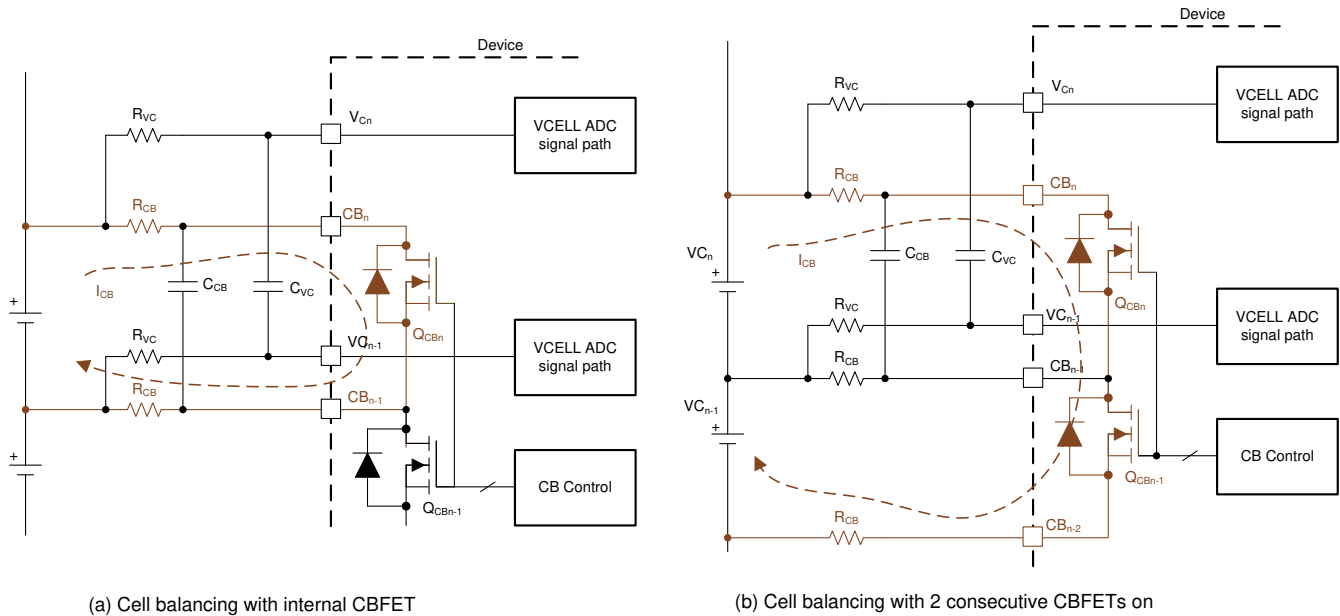

Figure 6-13. Internal Cell Balancing and the Flow of Balancing Current
- Balancing with no consecutive CBFET on (Figure 6-13 (a)): $I_{CB} = V_{Cell} / ((2 \times R_{CB}) + R_{dson_{QCB}})$
- Balancing with two consecutive CBFETs on (Figure 6-13 (b)): $I_{CB} = (\text{Sum of two } V_{CELL}) / ((2 \times R_{CB}) + R_{dson_{QCBn}} + R_{dson_{(QCBn-1)}})$
- Manual balancing control ($[AUTO_BAL] = 0$): With this method, the device will turn on the CBFETs that have non-zero balancing timer settings once $[BAL_GO] = 1$ is received. There is no odd and even channel switching during the cell balancing and the $BAL_CTRL1[DUTY2:0]$ setting does not apply under this control. Host MCU can enable two consecutive CBFETs with this method and a maximum of eight CBFETs can be enabled. When two consecutive CBFETs are enabled with both channels connected to battery cells, the balancing current is significantly different compared to no adjacent CBFET being on (Figure 6-13). The $DEV_CONF[NO_ADJ_CB]$ bit is provided to avoid inadvertent enabling of an adjacent CBFET for a system that is not intended to have an adjacent channel on for balancing. In this control method, the device is relying on the MCU to enable the proper channels. If the MCU sends $[BAL_GO] = 1$ but the CBFETs are enabled with an invalid condition, the device does not start balancing and sets $BAL_STAT[INVALID_CBCONF] = 1$. Invalid configurations are either: